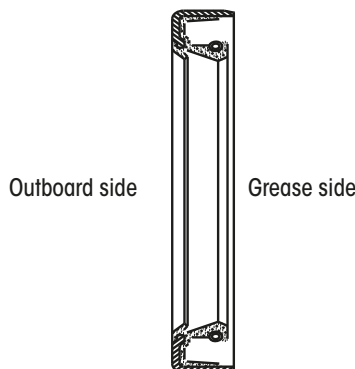

Figure 78: TRLAXLE S-Cam Seal Orientation
5. Install new seal, without any grease, on outboard side of spider cam bore with the seal oriented as shown in Figure 78 and press into spider bore with a suitable tool.